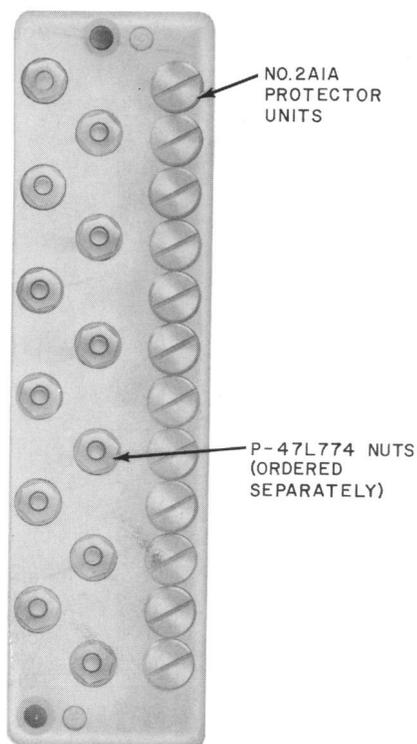

Fig. 2—57A2A-6 Connecting Block
2.02 *57A2A-6 Connecting Blocks (Fig. 2):*